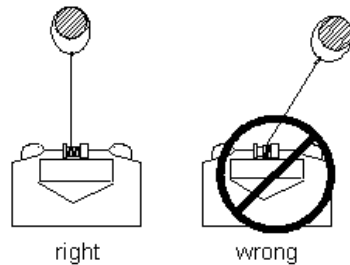

Fig.2
4. Avoid continuous pulls from extreme angles because this will cause the wire rope to pile up on one end of the drum (See Fig. 2) and damage the wire rope.